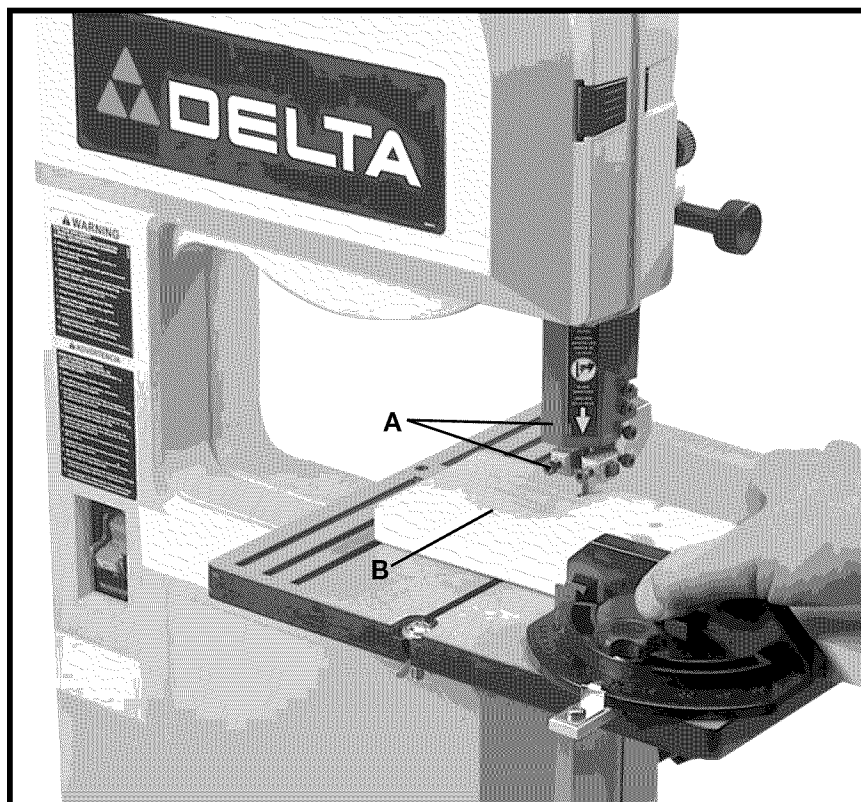

Fig. 45
Fig. 45 illustrates a typical cross-cutting operation using a miter gage. Notice how the upper blade guide (A) assembly is set slightly above the work surface (B).